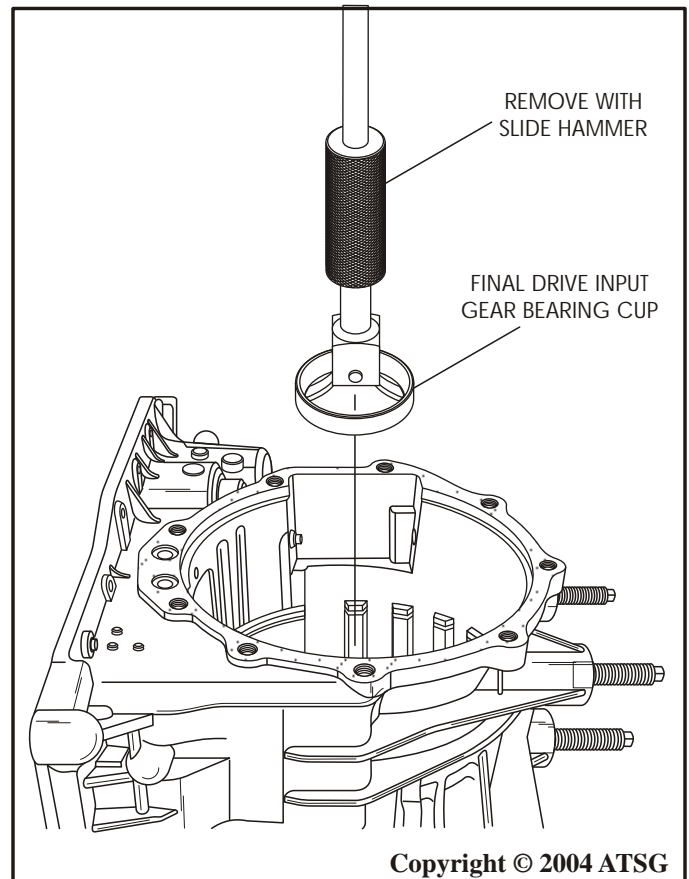

Figure 121
24. Rotate transaxle case in fixture 180 degrees, as shown in Figure 121.
25. Remove rear final drive input gear bearing cup using slide hammer, as shown in Figure 121.